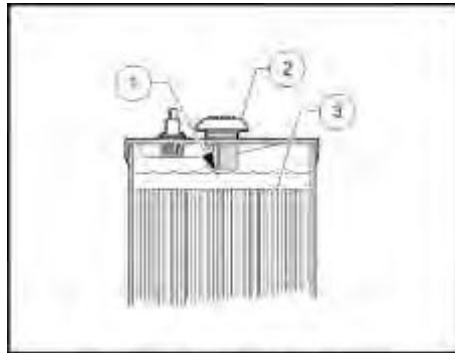

Figure 14 Battery Electrolyte Level
2. The electrolyte level in the batteries should be checked weekly (**Figure 14**). Add water only after charging unless the electrolyte level is below the top of the plates. In this case, add just enough water to cover the plates, charge and then check the level again. Never charge batteries if plates are exposed above electrolyte level. For best battery life, add only distilled water. **See following CAUTION and NOTE.**